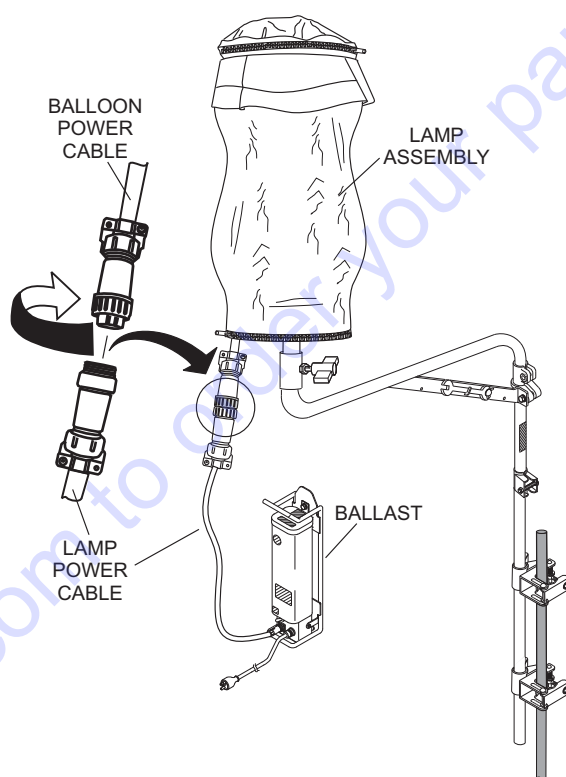

Figure 8. Connecting Lamp Power Cable
1. Connect 16.4 ft. (5 meters) lamp power cable (Figure 8) to the balloon power cable.